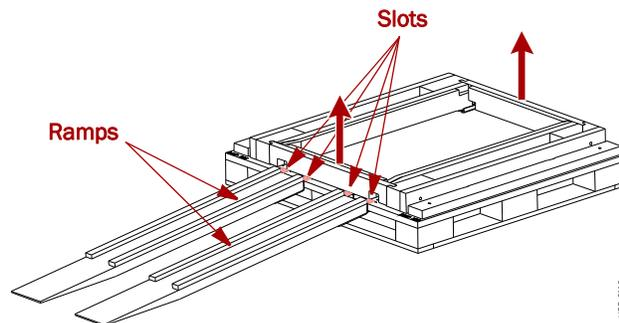

Figure B-4: Placing the Ramps in Position
2. Remove the **ramps** from the RAMP shipping box and lay them down, placing the brackets into the corresponding slots in the pallet (Figure B-4).